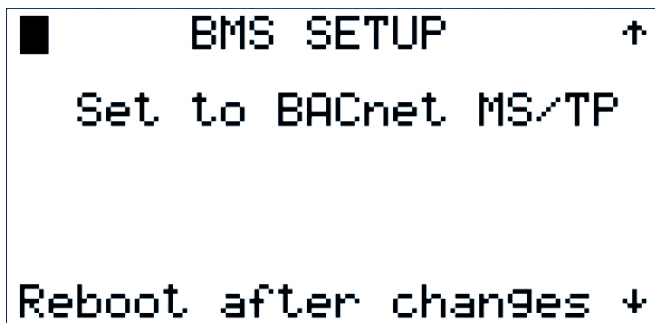

Figure 55
2.3.3.1.5 BMS Setup (Figures 55 through 62)
Selecting the BMS SETUP from the Commissioning Menu will display the screen shown in Figure 55. This determines how the J25 serial port can communicate with other equipment. The port can be set to BACnet MS/TP or to Modbus RTU. Making any changes will require a power cycle to have those changes take effect.